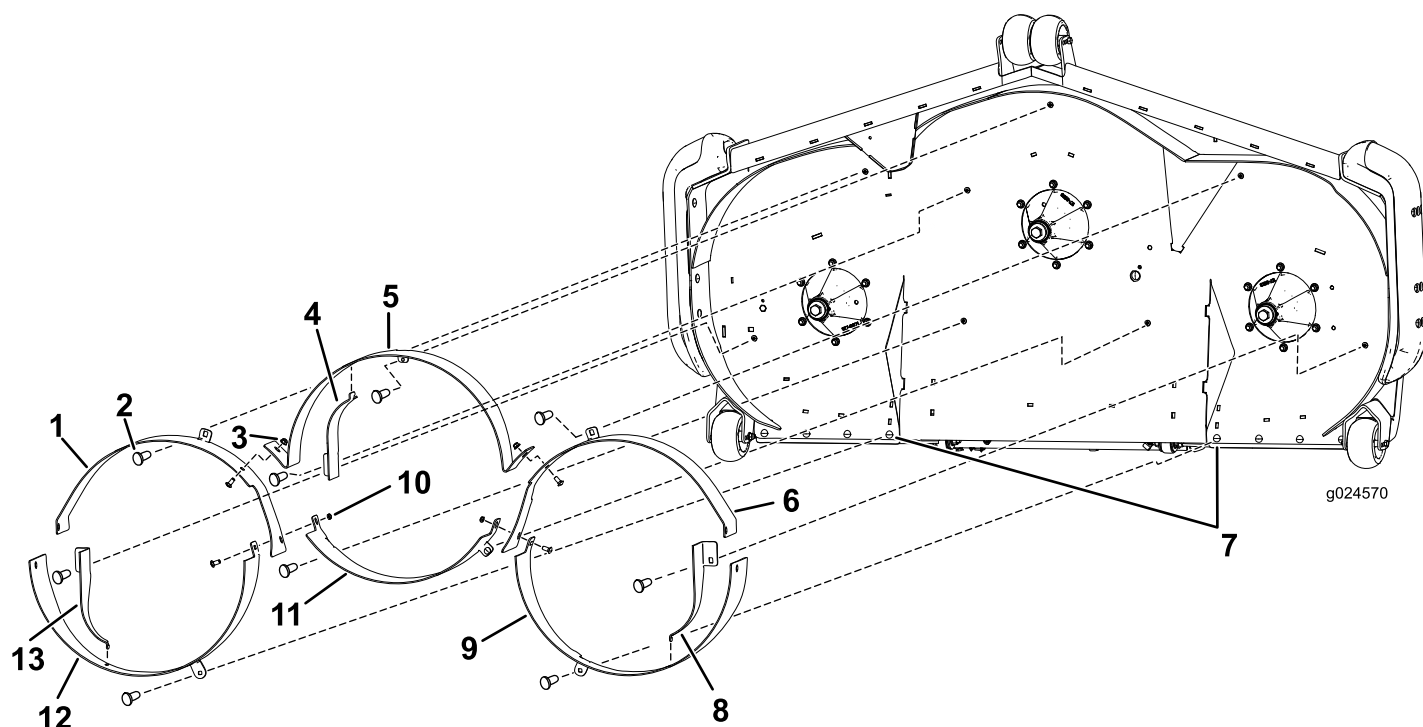

Figure 3
1. Install the front outer baffles by using one carriage bolt (3/8-16 x 7/8 inch) and one flange nut (3/8-16) per baffle (Figure 3).
2. Install the front center baffle with 3 carriage bolts (3/8-16 x 7/8 inch) and flange nuts (3/8-16) as shown in Figure 3.
3. Install the rear outer baffles by using one carriage bolt (3/8-16 x 7/8 inch) and one flange nut (3/8-16) per baffle as shown in Figure 3.
the innermost square hole on the inboard tire flap on each side (Figure 3).